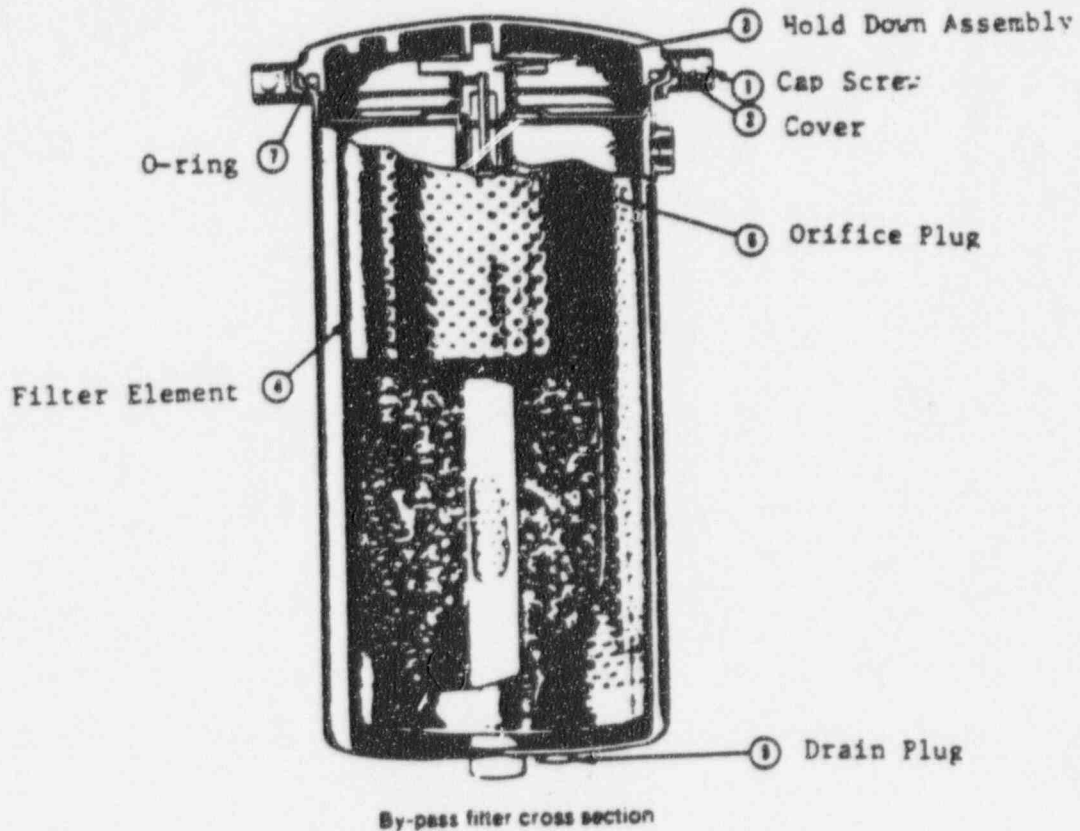

FIGURE 1
- 6.1.7.1 Remove drain plug (5), see Figure 1, and drain oil.